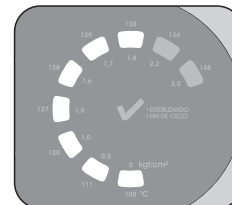

Fig.6
When turning the autoclave on for the first time, the 7 first LEDs of the temperature/pressure LED bar will keep alight (Fig. 6), showing the need to perform the altitude adjustment, that is the first cycle of the autoclave. Perform the adjustment **with empty chamber (no materials, trays or tray holder)**, following the instructions below:
- 2► During the heating process, the **heating/drying** LED will light up and the 7 LEDs (Fig. 6) will blink. The whole process will be performed automatically in at most 15 minutes. At the end, the LED  will light up, announcing the end of the adjustment.